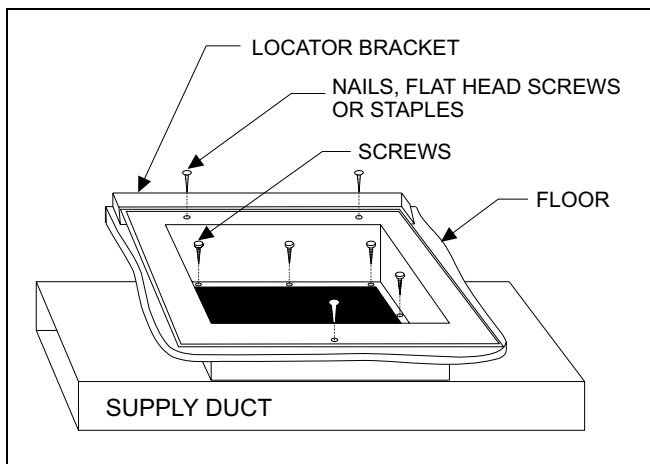

FIGURE 11 : Duct Connector Screw Attachment
3. Place locating bracket (supplied with the duct connector) to the back edge of the floor opening. See Figure 11.